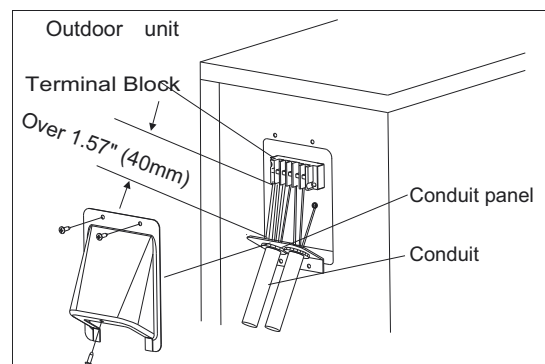

Fig. 12 – Field Wiring
5. Connect conduit to conduit panel (see Fig.12 ).